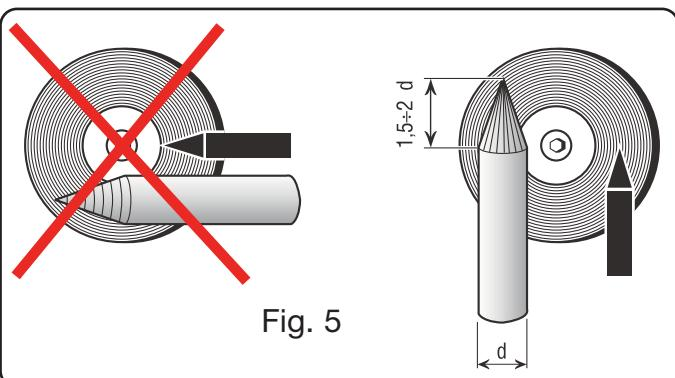

Fig. 5
Be especially careful when preparing the electrode tip. Grind it so that it has vertical grooves as shown in fig.5.
- Grind the end of the tungsten electrode into a tapered shape, for a length equivalent to approximately 1.5-2 times the electrode diameter. (fig. 5).